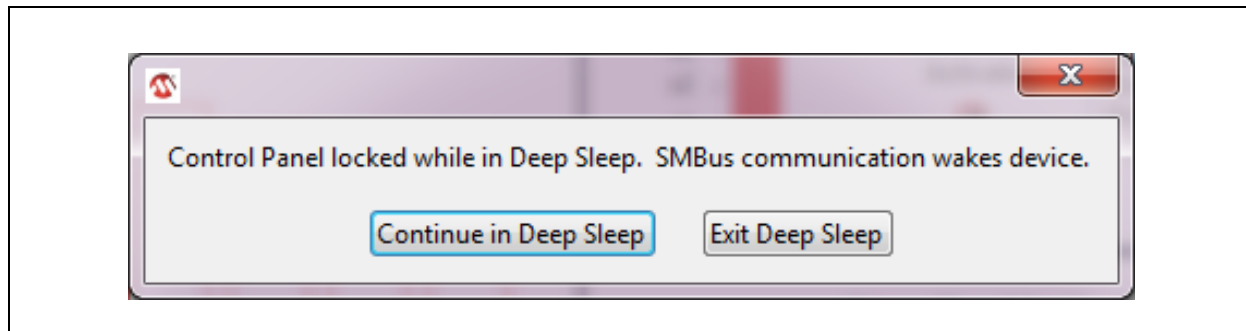

Figure 4.17 Deep Sleep Message
- The Deep Sleep switch puts the device into the Deep Sleep state. To exit Deep Sleep, click anywhere on the GUI to display the message shown in Figure 4.17. There is also a timeout that will display the message shown in Figure 4.18.